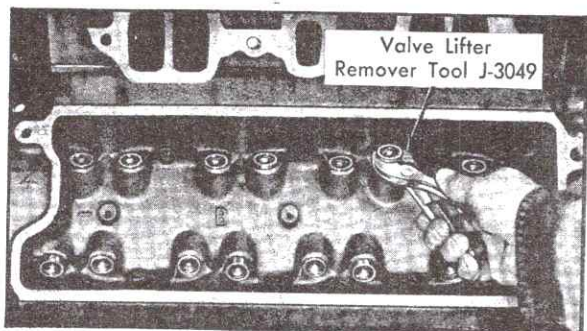

Fig. 6-136 Valve Lifter Removal
14. Using a small screwdriver, or pointed tool, remove lifters from engine, keeping them in order so they can be reinstalled in same bores from which they were removed. Use Valve Lifter Remover, J-3049, to remove any lifters that are stuck, rotating lifter back and forth while lifting, Fig. 6-136.